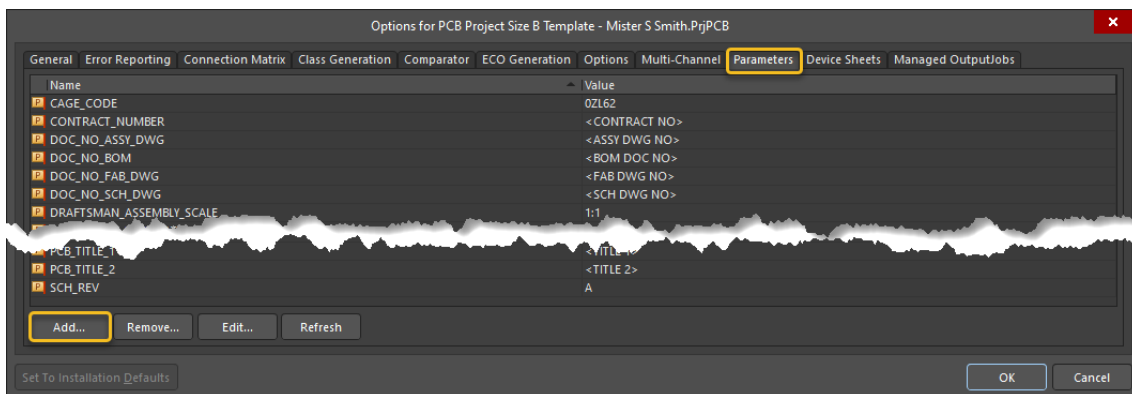

Figure 7. Project Options - Parameters
26. In the *Project Options* dialog, select the *Parameters* tab at the top-right of the dialog, Figure 7.